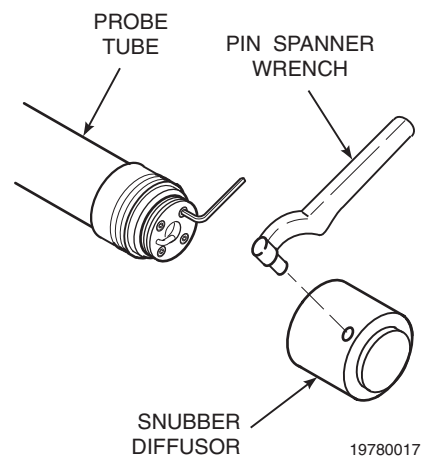

Figure 3-2. Removal of Snubber Diffuser
- b. The vee deflector is an option used with the ceramic diffuser. Figure 3-2 shows a probe with a snubber diffuser. If the probe has the vee deflector, remove vee deflector and hub setscrews and remove vee deflector. Use spanner wrenches from probe disassembly tools kit, Table 4-1, to turn hub free from probe tube. If applicable, inspect optional ceramic diffusion element. If damaged, replace element.
- i. To install snubber diffuser, apply anti-seize compound to threads of probe tube, Figure 3-2, and snubber diffuser. Reinstall diffuser on probe tube. Using pin spanner wrenches, torque to 14 N•m (10 ft-lbs).